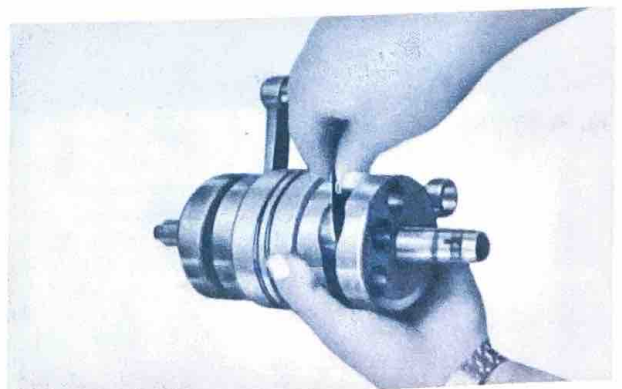

Fig. 4-17-23
- (2) Checking the Connection Rod for Large End Side Play. (Fig. 4-17-23)